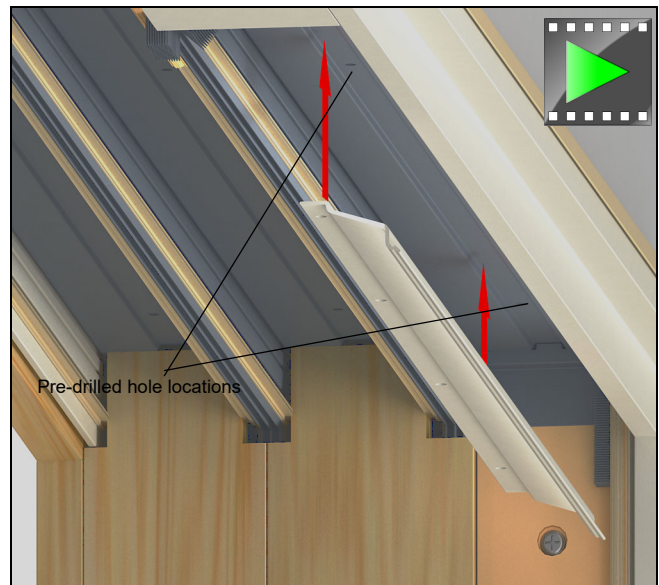

Figure 63
- Remove tape from head jamb structural clip in head jamb and fasten using #8 x 3" black installation screws through all the pre-drilled holes. See figure 63.